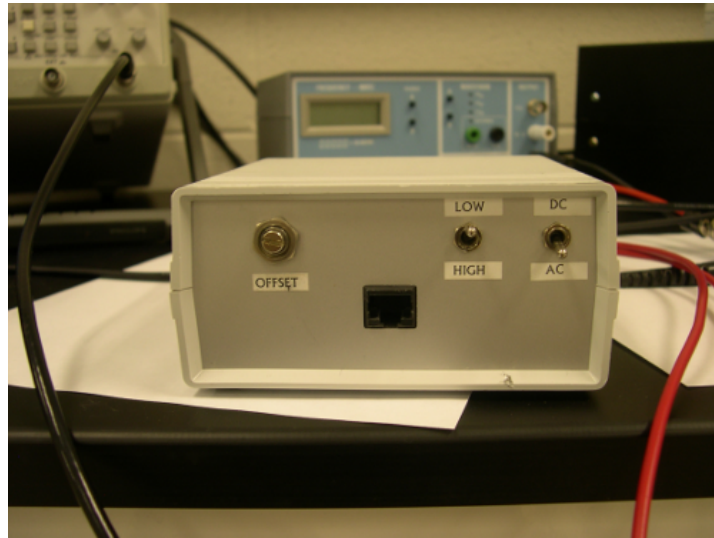

Figure 6.6: Setting the amplifier.
- a) Set the amplifier coupling switch to AC and the gain of the amplifier to LOW as shown in Fig. 6.6.